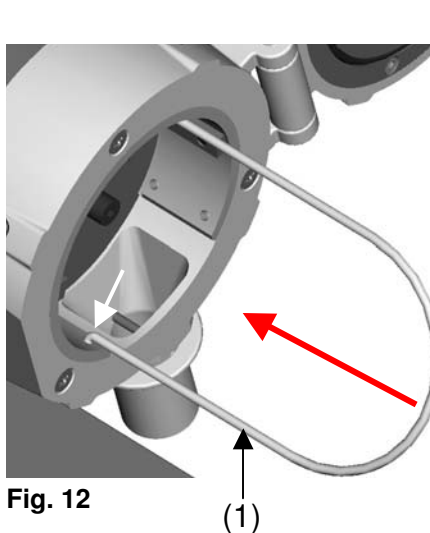

Fig. 12
If the grinding ring is stuck, use the supplied extractor hook in order to grip the grinding ring at the inside thread and pull it out. Please see Fig. 12, 13 & 14 for proper proceeding)
Place the extractor hook (1) in the inside threads, as shown in Fig. 12 & 13